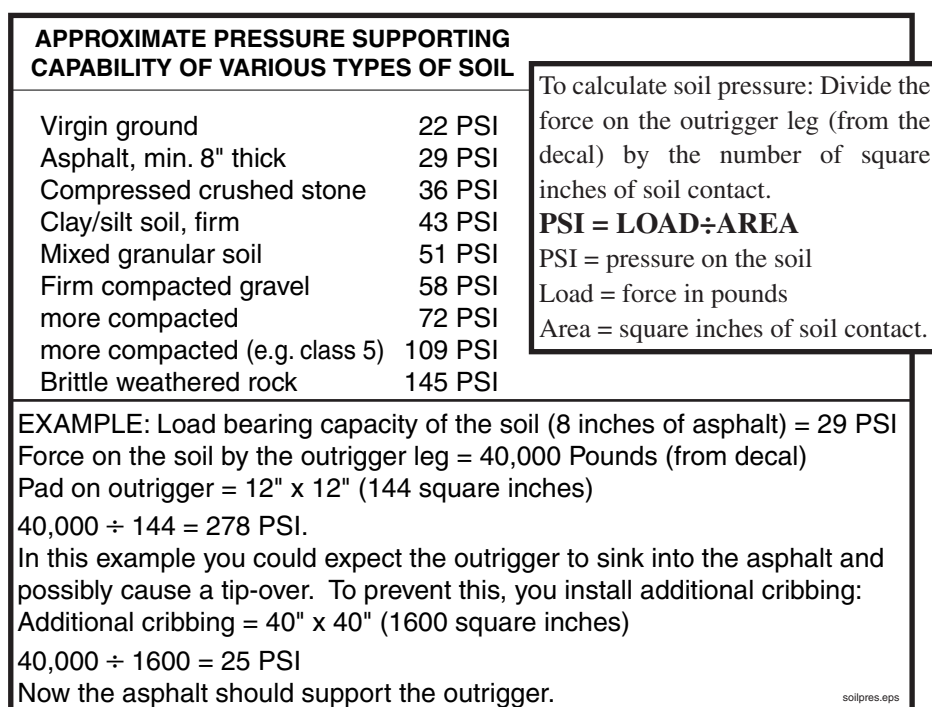

Figure 27
6.24  **WARNING** Tipping hazard! Check soil conditions before jacking the outriggers. If necessary, use cribbing or suitable pads under the outrigger legs to increase the area of soil contact. See the chart in Figure 27 for examples of load bearing capacities of various soil types and for an example of how to calculate how much cribbing is needed. If in doubt, the site management may be able to supply the load bearing capacity of the soil.